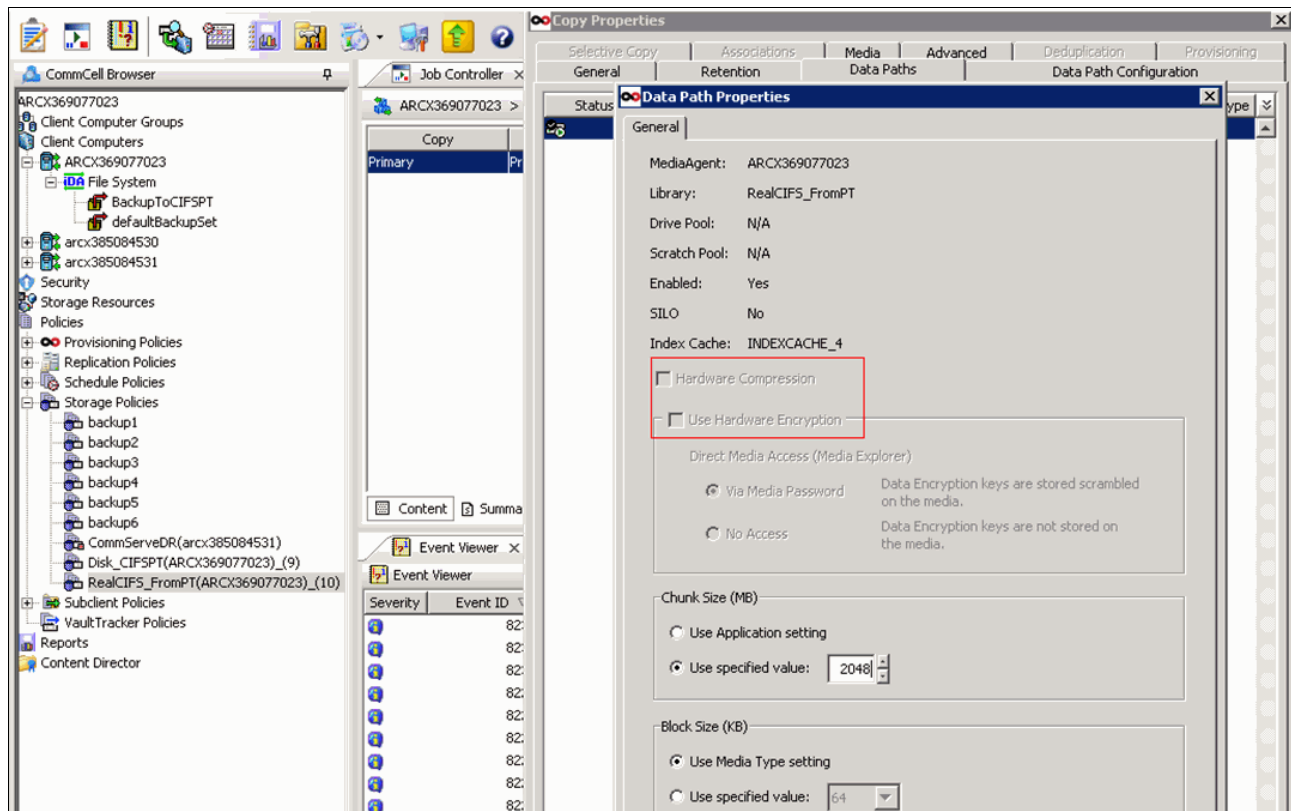

Figure 19-18 Clearing / enabling hardware compression
4. From the Data Path Properties dialog box, clear the **Hardware Compression** check box to disable hardware compression. Clear the **Use Hardware Encryption** check box to disable hardware encryption (Figure 19-18).